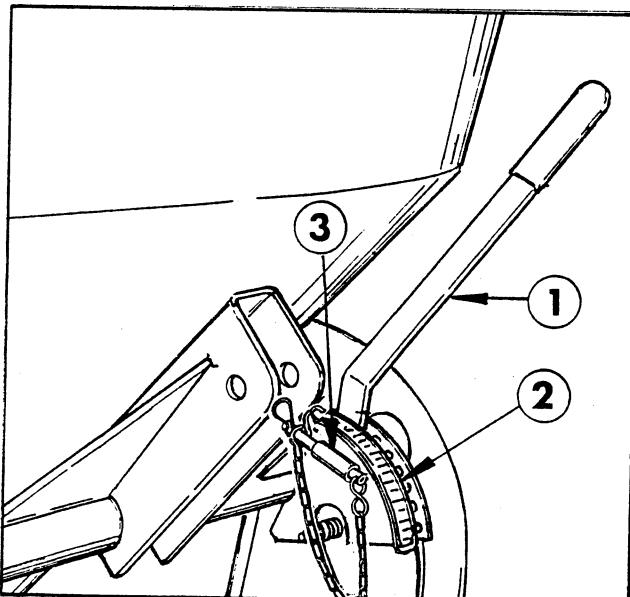

Fig. 2
**FLOW REGULATOR HANDLE:** Is used as an indicator on the Regulator Scale to denote the rate of material flow. See FIG. 2.